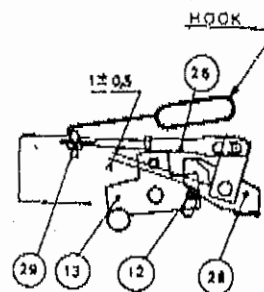
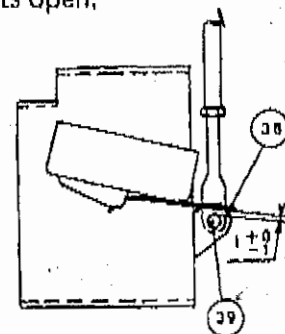

Fig. 17
Fig. 21
A. Tripping (Fig. 17 and 18)
1) Adjustment. Place breaker in open position and unscrew adjusting reset screw (30). With release bar in latched on position resulting from breaker being in open position, adjust linkage (26) to provide 1 ± 0.5 mm (0.039 ± 0.020 inch) between lever (28) and lug (12) of the latch (13).
- A. Limit switch for Latch Indication. Place bar in latched position as shown in Fig. 17 and 18. In this position, the limit switch contacts will be closed. Deform strip (38) Fig. 21 to provide a maximum gap setting of 1 mm (0.039 inch) between strip (38) and lug (39). NOTE: This adjustment must be performed without applying voltage to the undervoltage holding coil. Following adjustment, operate voltage release device permitting release bar to unlatch. Inspect limit switch to see that contacts open.